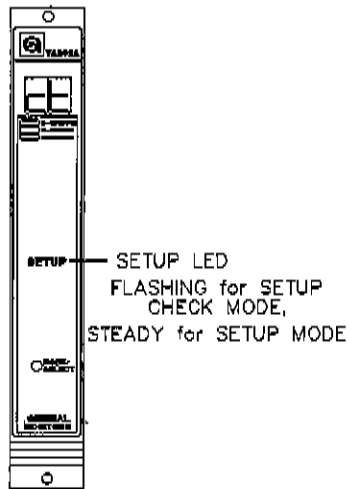

Figure 24
- After the Fault/Inhibit option has been selected, the user will select the ramp time (3 or 10 seconds) and whether or not the alarm outputs will activate during a Card Test. The display will indicate **ct** for about five seconds (figure 24).